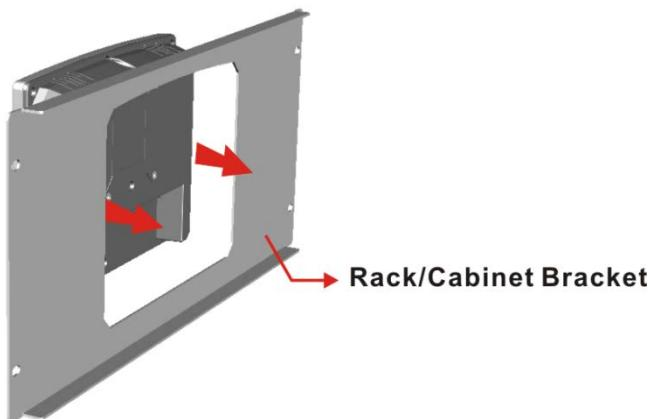

Figure 3-19: Rack/Cabinet Bracket Installation
Step 1: Slide the rear chassis of the AFL3-W15B-H81 flat bezel panel PC through the rack/cabinet bracket until the frame is flush against the front of the bracket (**Figure 3-19**).